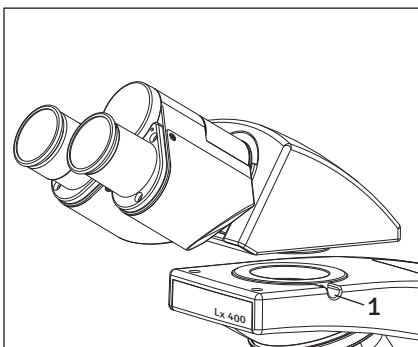

Fig. 13
1. Using allen wrench 3mm (provided), loosen the Head Locking Screw (1) and remove the dust cover cap provided in dovetail cavity as well as on observation head dovetail.
3. Tighten the Head Locking Screw (1) after positioning the Observation head as desired. See figure 13.